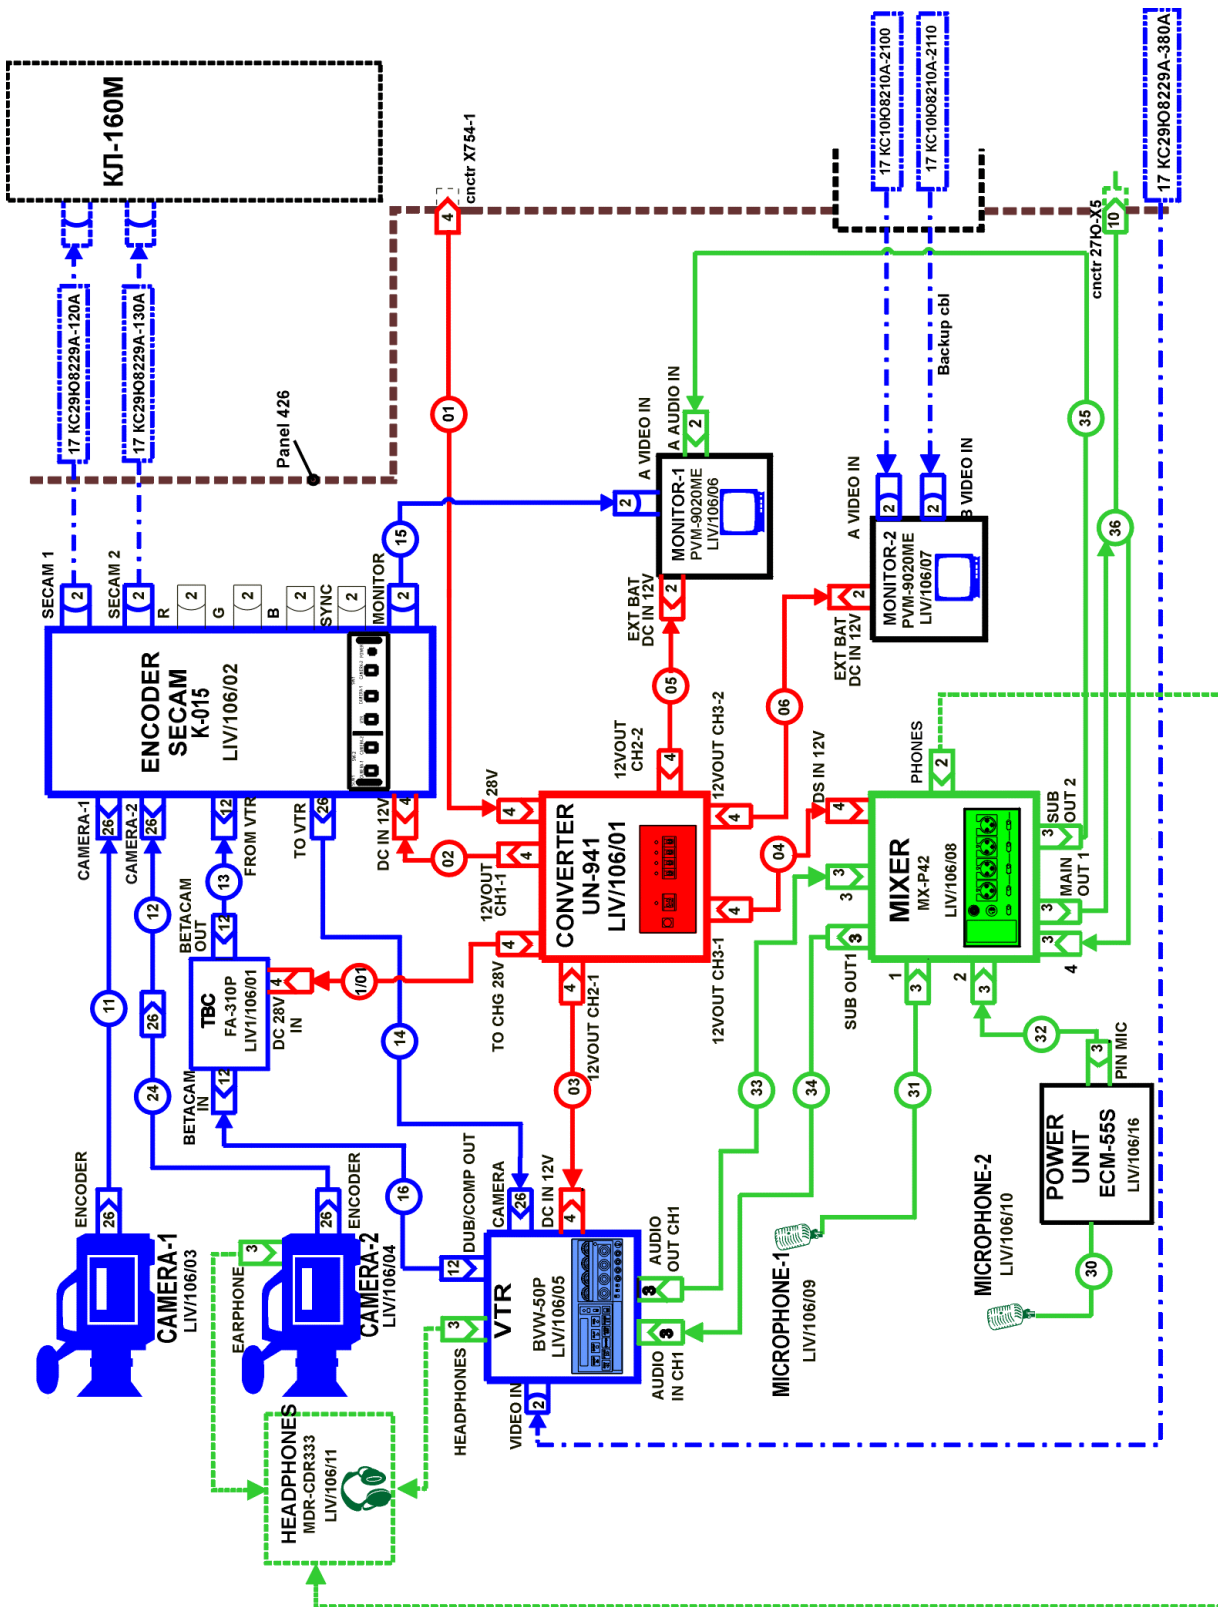

Figure 2.2-2. LIV video system functional diagram
4. Connect devices (see Figure 2.2-2)